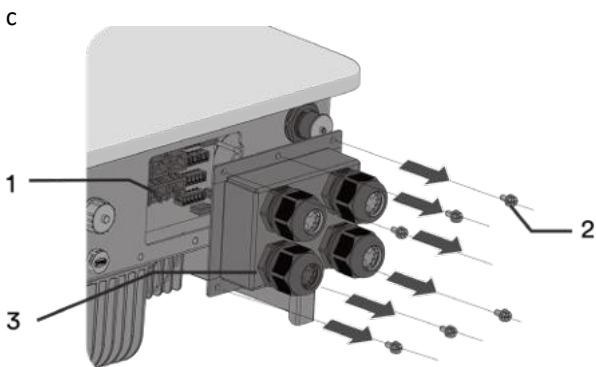

Fig. 50. Remove the communication cover
1. Remove the communication cover from the inverter, store the removed screws properly (see Fig. 50)  M4 [1.6Nm].